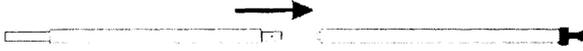

FIGURE 1
STEP 1:CONNECT POLES #1 AND #2 TOGETHER AS SHOWN IN FIGURE 1 ENSURING THE LOCKING MECHANISM CLICKS INTO PLACE. PULL THE POLE COVER THE POLES AND THE FOAM AS SHOWN IN FIGURE 2.